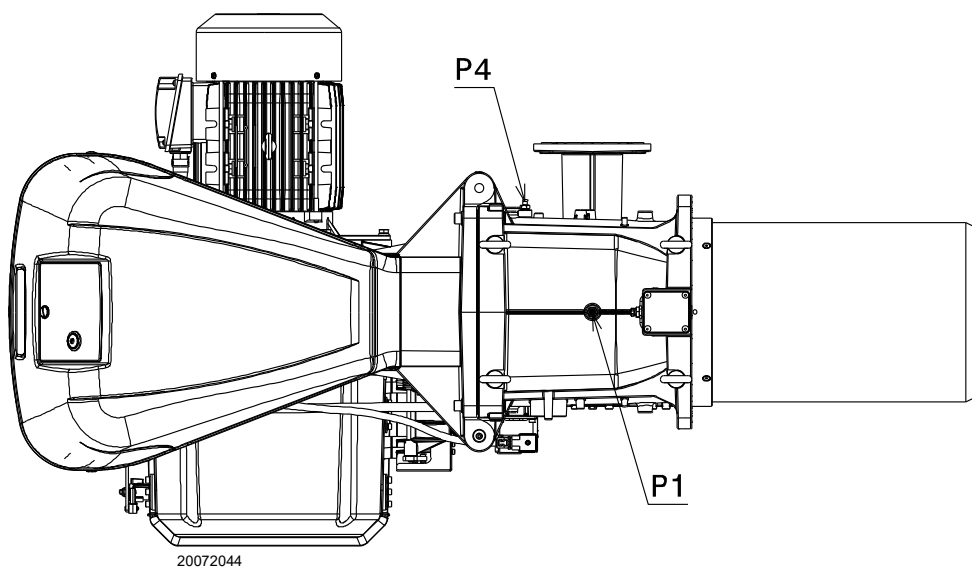

Fig. 22
Gas pressure measured at the test point P1)(Fig. 22), with:
- subtract the combustion chamber pressure from the gas pressure measured at test point P1)(Fig. 22).
Gas pressure at test point P1)(Fig. 22) = 46.7 mbar
To calculate the required gas pressure at test point P1)(Fig. 22), set the MAX output required from the burner operation:
- read, on the right (column 1), the pressure at the test point P1)(Fig. 22).
Pressure required at test point P1)(Fig. 22).